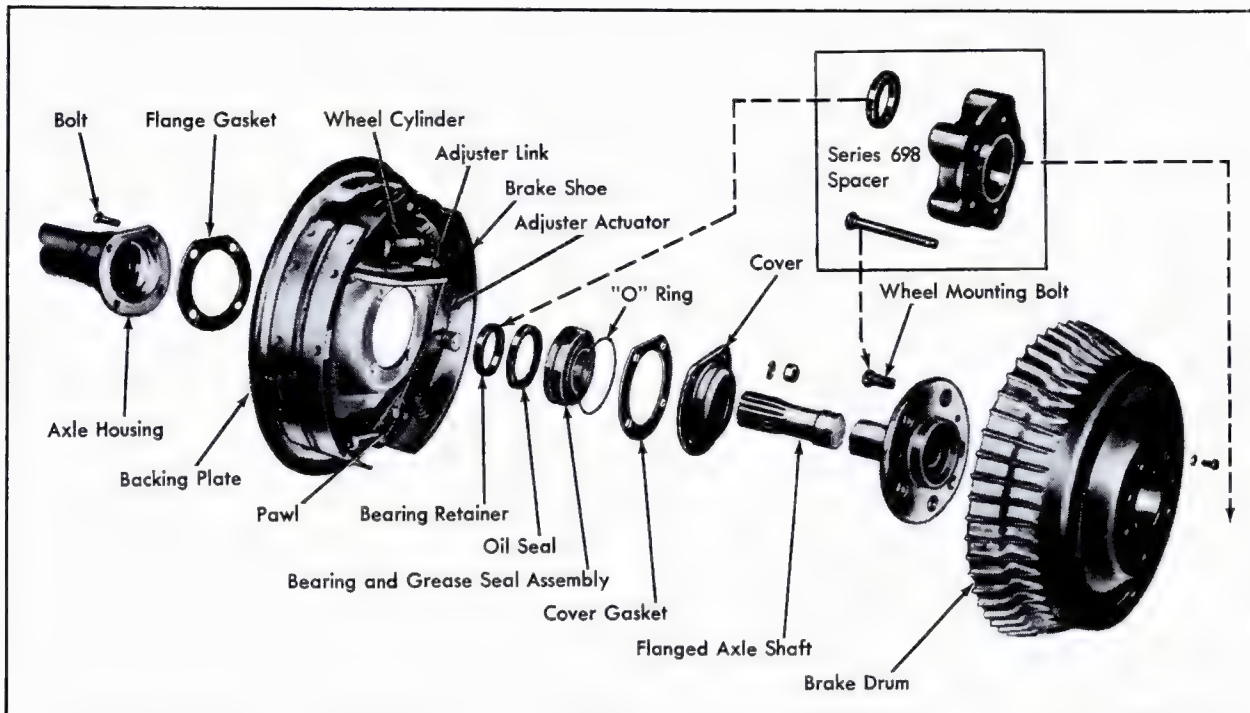

Fig. 4-28 Rear Wheel Disassembled
2. Remove four nuts and lockwashers that hold cover, gasket, and backing plate to rear axle housing, Fig. 4-28.